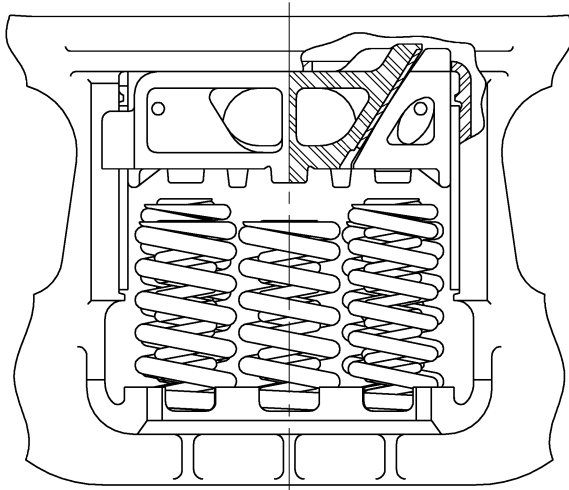

Figure 1
1. Lift the truck bolster off of the springs to the top of the side frame opening (see figure 1).